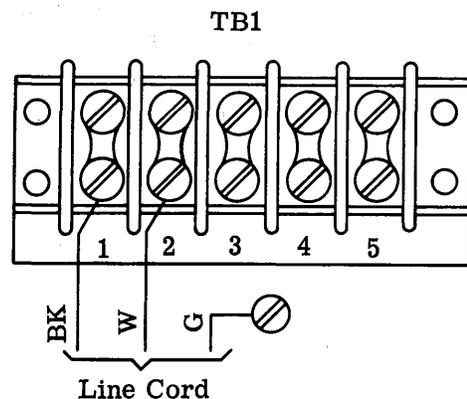

Figure 2 - Line Cord Connections
2.03 Connect the three-conductor line cord as shown in Figure 2.